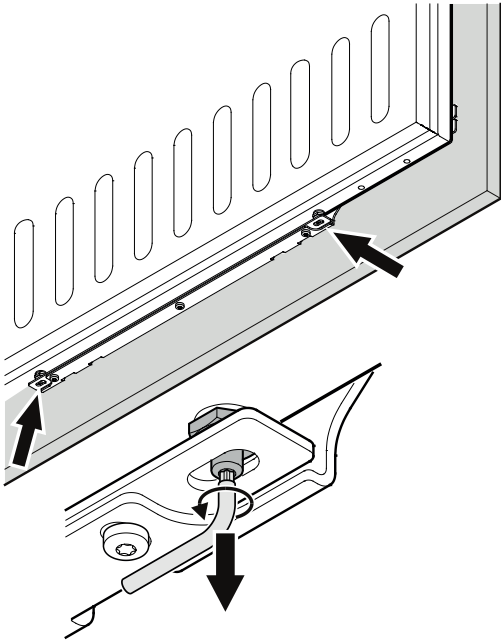

Figure 39
8. Turn the adjusting bolts (bottom refrigerator door) until they make contact with the attachment bracket (Figure 39).